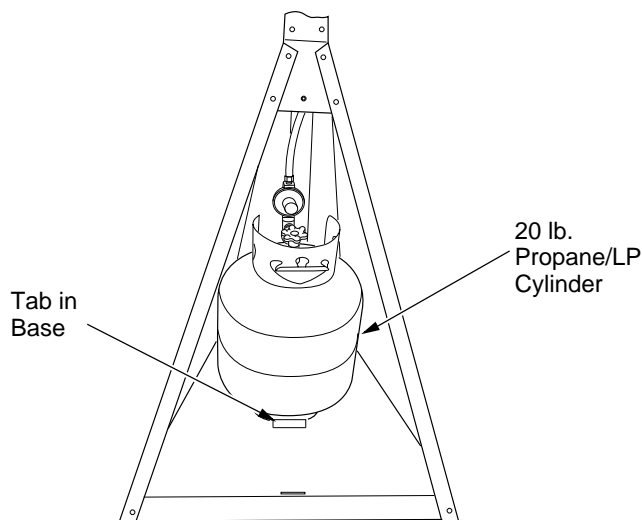

Figure 11 - Installing Propane/LP Cylinder
11. Place the cylinder inside the base with the regulator to the front of base assembly. Make sure the bottom collar of the cylinder is in front of the tab in the base (see Figure 11).
3. Place the cylinder inside the base with the regulator to front of base assembly. Make sure the bottom collar of the cylinder is in front of the tab in the base (see Figure 11).